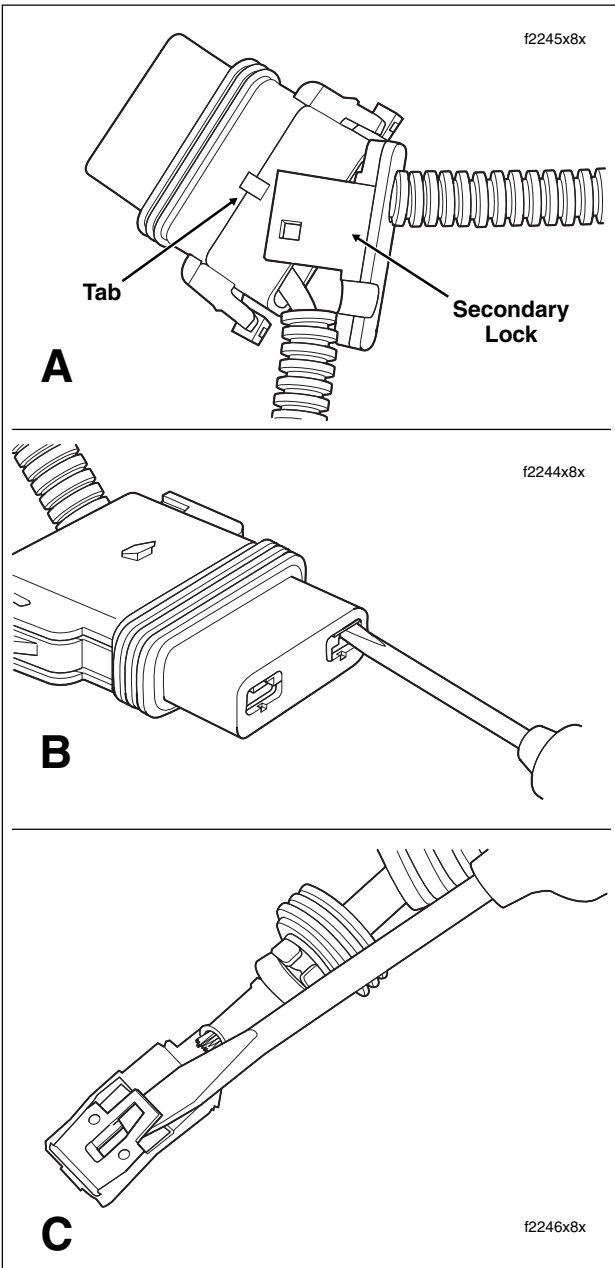

Figure B-26. Remove Socket Terminals
- a. Gently pull sides of secondary lock away from socket housing to disengage slots from tabs on socket housing. See A of Figure B-26. Free secondary lock from cables and set aside.
- b. Take note of the opening on one side of the socket terminal. Gently insert flat blade of pick (Snap-On TT600-5) or small screwdriver into opening until it stops. Pivot the pick toward the terminal body and hold in position. See B of Figure B-26.
- a. Carefully bend tang outward away from the terminal body. See C of Figure B-26.